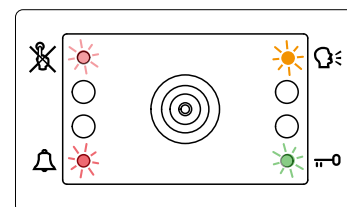

Fig. 7 Door panel in BOOT-LOADER mode
- The door panel will go into boot mode which is indicated by the four LED's flashing alternatively (Fig. 7).